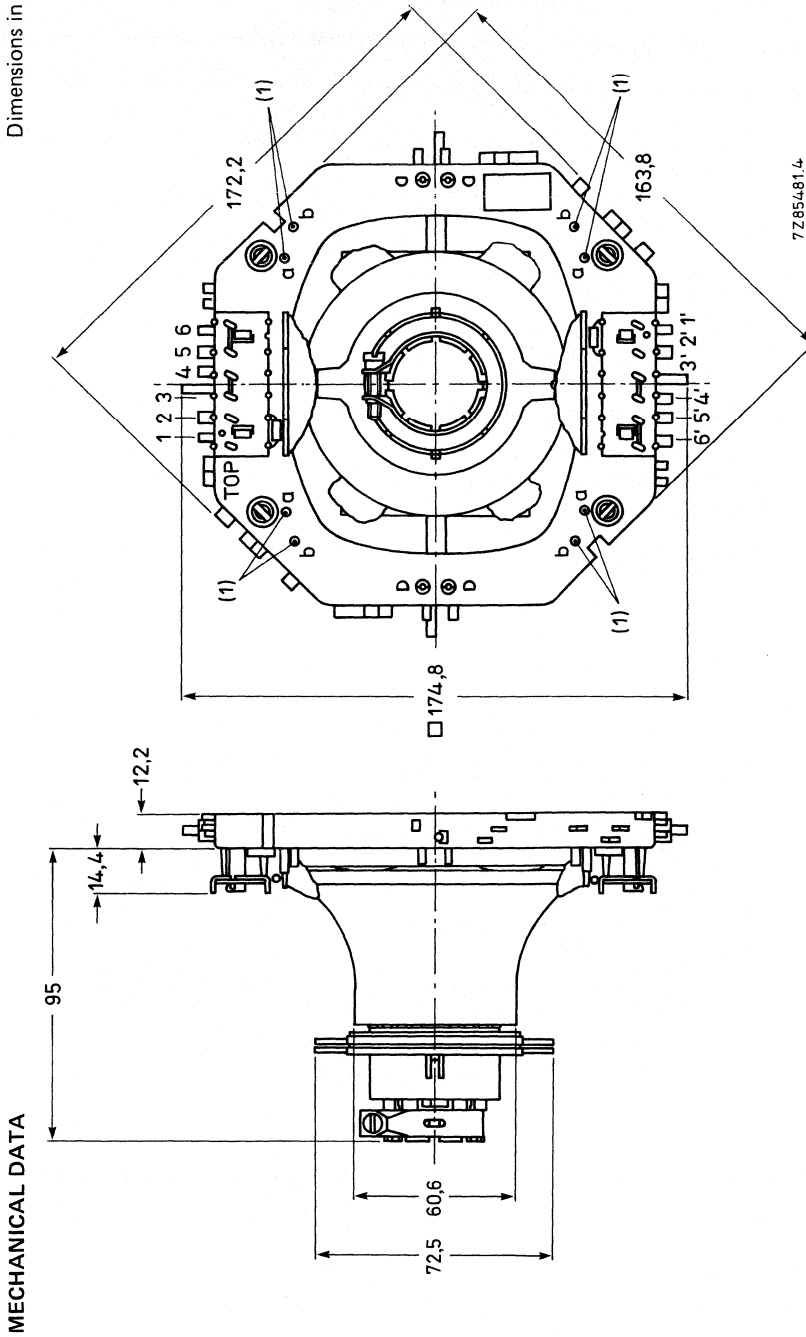
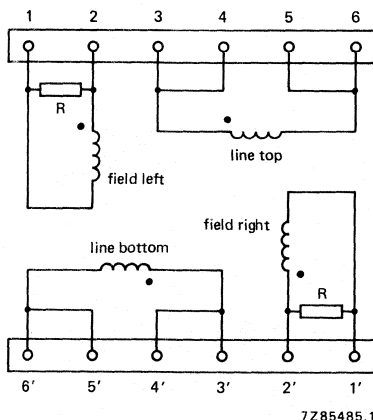

Fig. 1 Deflection unit AT 1039/05.
Fig. 2 Diagram of line and field coils; R = 270  $\Omega$ . The beginning of the windings is indicated with ●.
If a further improvement of raster geometry is required use can be made of correction magnets\*, which must be fitted to mounting posts (1). The unit has solder pins for connection. The pin numbering in Fig. 1 corresponds to that in Fig. 2.